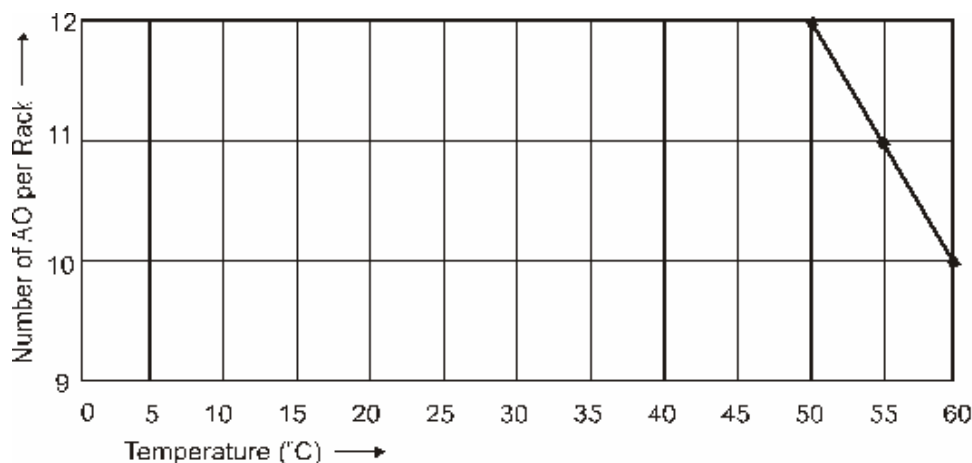

Figure 30 – Power Supply de-Rating
3. Limit the number of Analog Output modules to a maximum of 10 per rack. (See Figure 30)